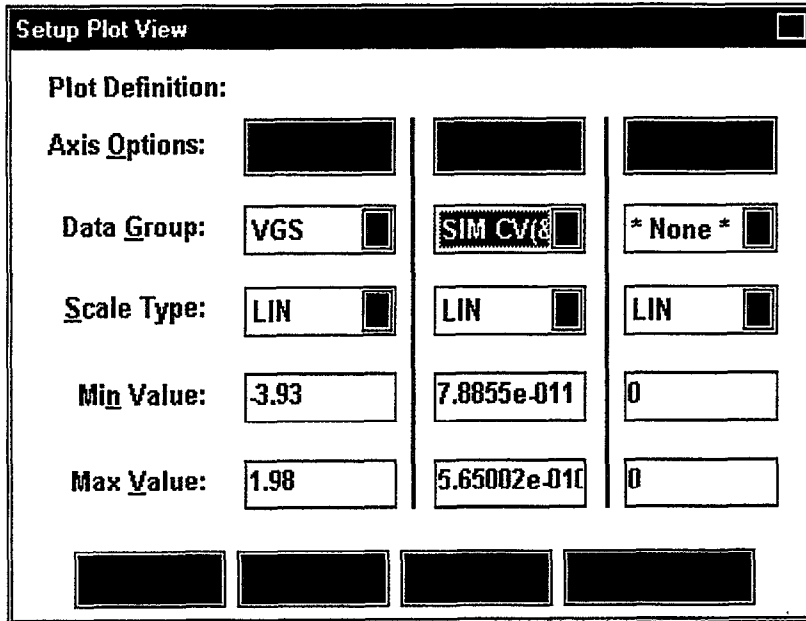

Figure 8 Setup Plot View Window
2. Click on the **New Plot** button to draw a new graph. The **Setup Plot** window will pop up. (See Figure 8.)